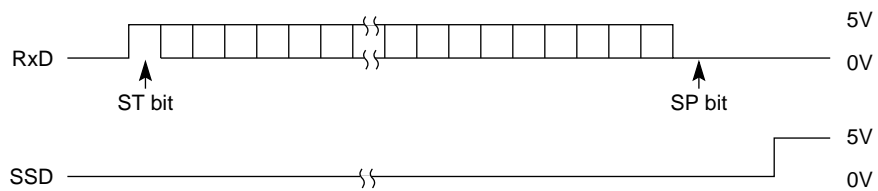

Figure C-3-4
• Yes Is the RxD of Q3 as specified in Figure C-3-4?
② In receiving by serial interface, printing data is omitted or printing operation is not performed.
• Are RxD and SSD of Q3 as specified in Figure C-3-4?